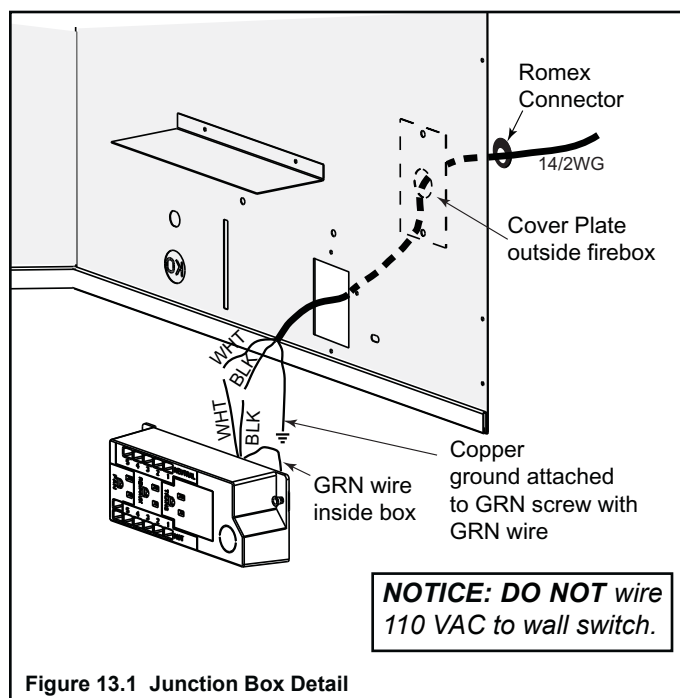

Figure 13.1 Junction Box Detail
- Remove the cover plate located on the outer shell - right side (see Figure 13.1).